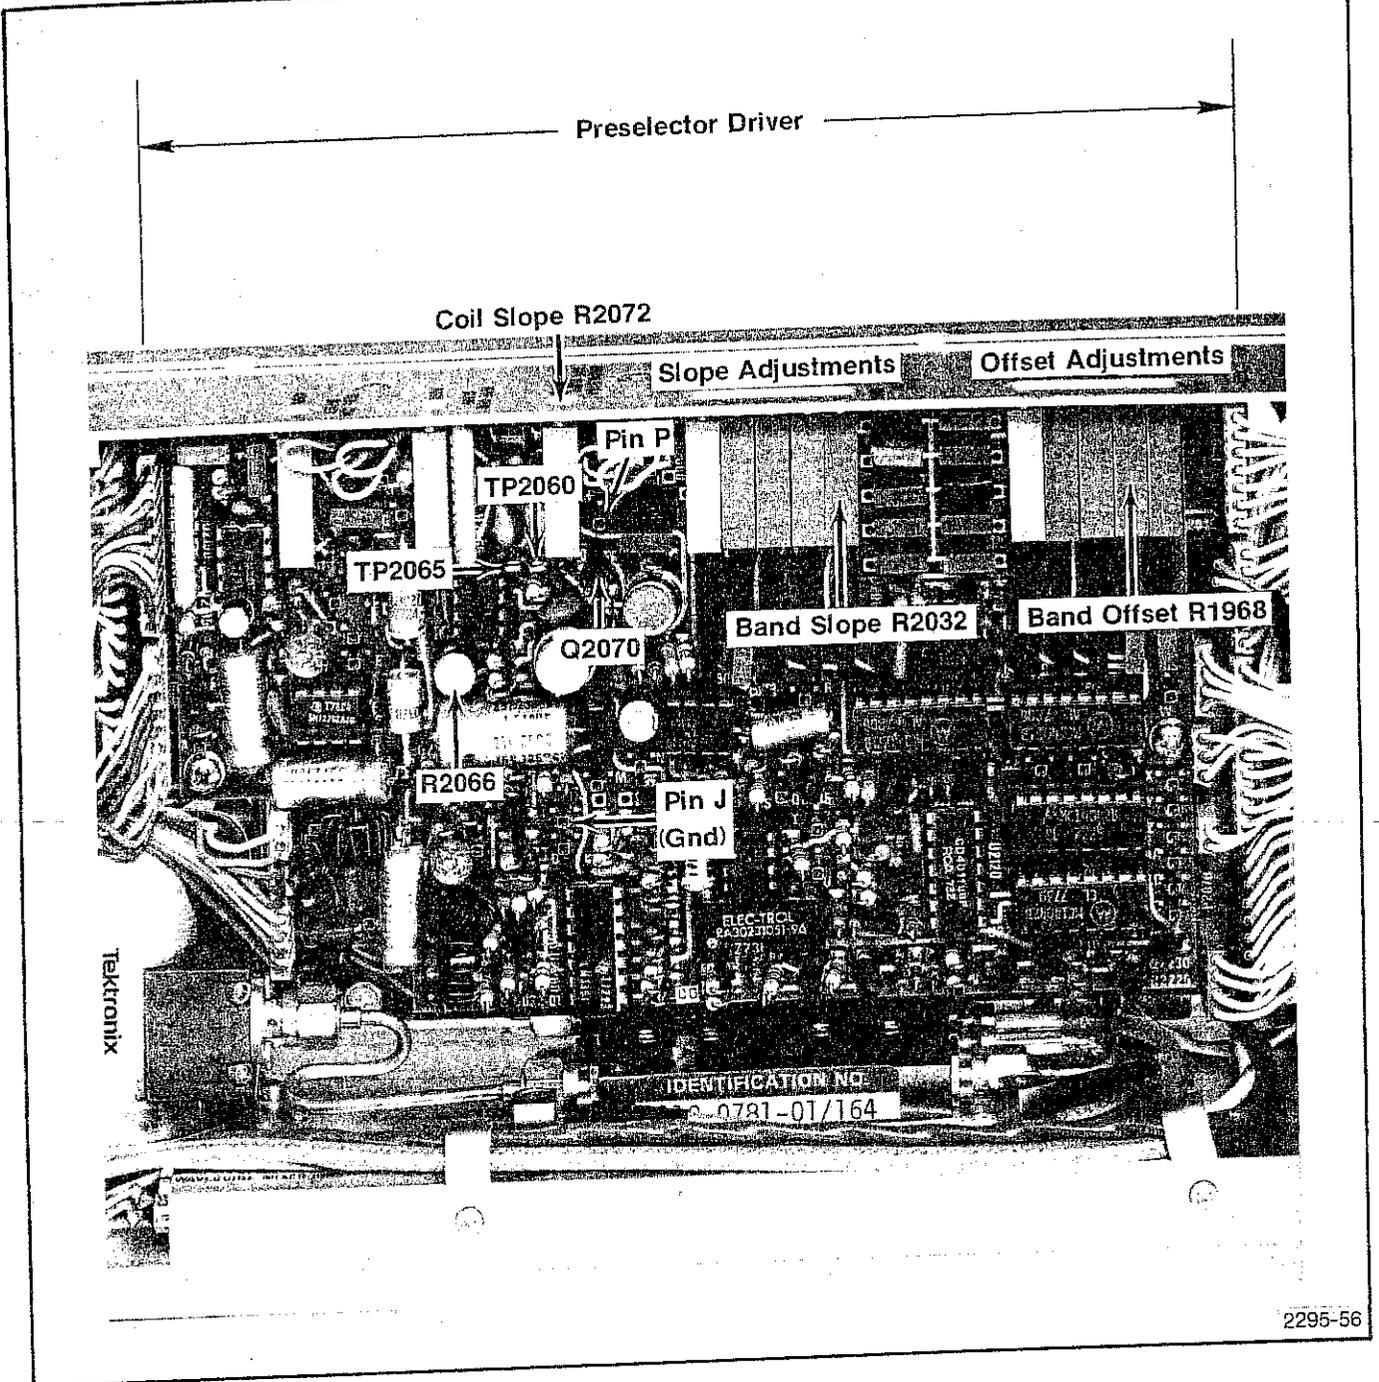
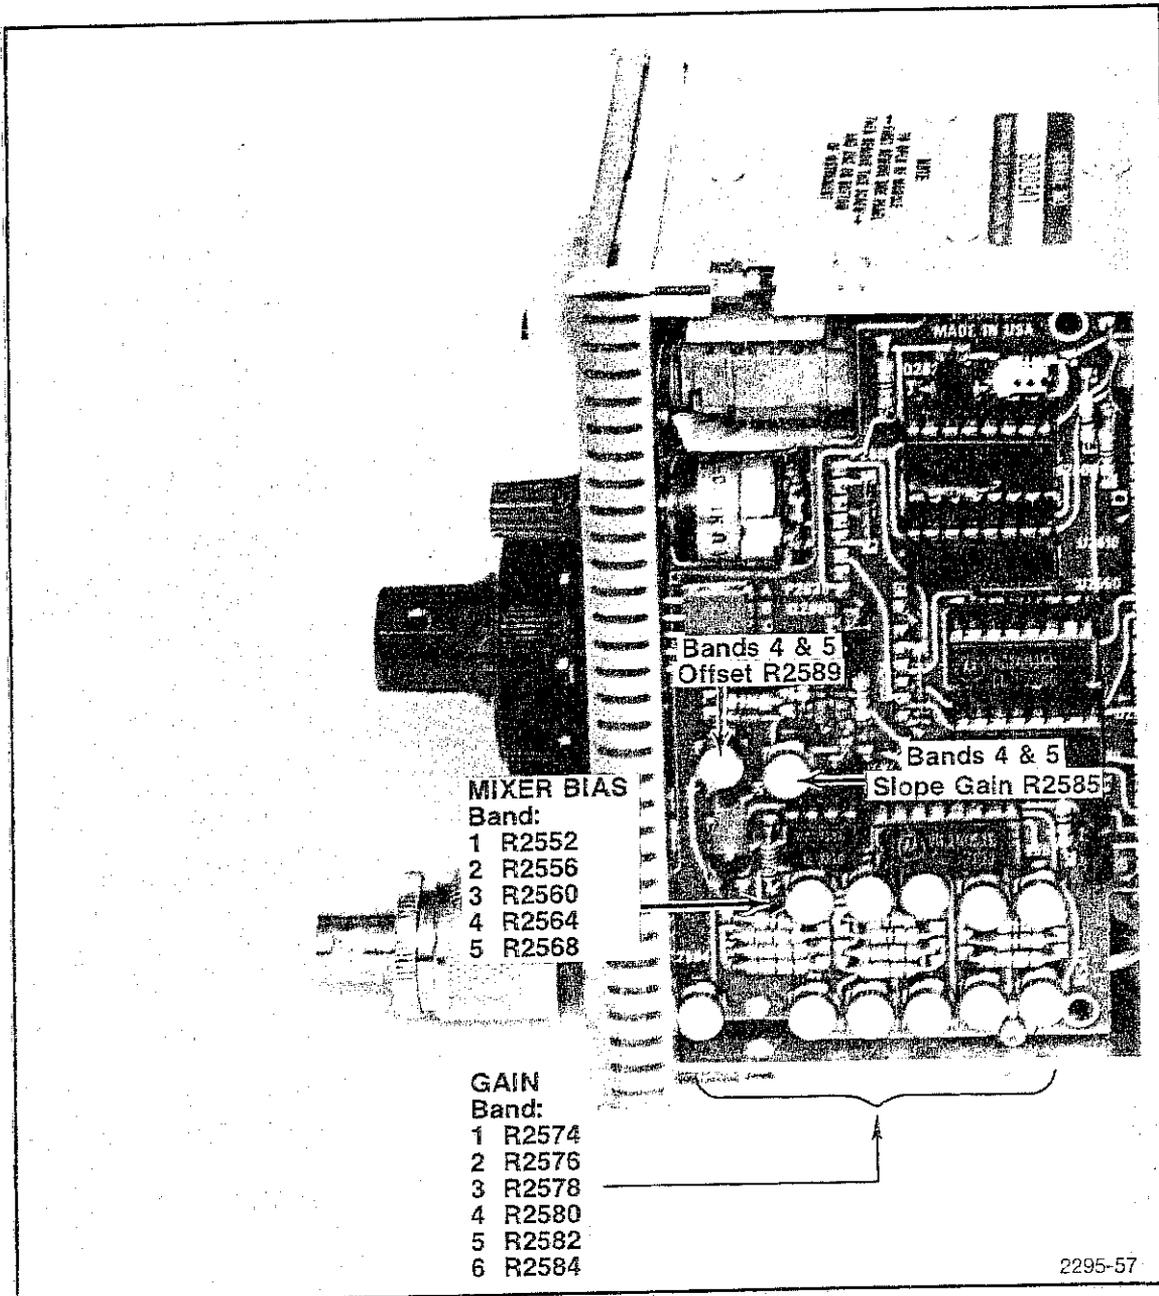

Fig. 4-48. Preselector Driver Adjustment and T.P. Locations.
Fig. 4-49. Vertical Microcomputer Interface Adjustment and T.P. Locations.
a. On the 1st LO and Preselector Driver board, remove Q2070, connect a shorting strap across TP2060 and TP2065, and connect a voltmeter or dc coupled test oscilloscope probe between connector P and ground (see Fig. 4-48).
c. Set the following Preselector Driver and Vertical Microcomputer Interface adjustments to midrange (see Figs. 4-48 and 4-49).
Band 1 through 5 Offset adjustment—R1962, R1970, R1976, R1980 and R1986 (Fig. 4-48). Band 1 through 5 Slope adjustments—R2008, R2014, R2020, R2026, and
R2032 (Fig. 4-48). Band 1 through 6 Gain adjustments—R2574, R2576, R2578, R2580, R2582, and R2584 (Fig. 4-49). Mixer Bias adjustments—R2560 and R2568 (see Fig. 4-49).
d. Set the following adjustments fully counterclockwise (see Fig. 4-49):
f. Adjust Preselector Coil Slope R2072 (see Fig. 4-48) to center the comb of markers on the display.
g. Change BAND selector to 2 (2.5 to 4.5 GHz) and adjust Band Offset R1968 (see Fig. 4-48) to center the comb envelope on the display.
i. Adjust Band 5 Bias R2568 (see Fig. 4-49) for overall flatness of the comb display. Use the RF Attenuator, if needed, to avoid over-driving the preselector.
j. Switch to Band 4 (6.5 to 12.5 GHz) and adjust Band 4 Offset R1980 (Fig. 4-48) and Bias R2564 (Fig. 4-49) for maximum comb amplitude and flatness. Use the same procedure as that described for Band 5.
p. Adjust R2043 (Band 5 Slope) R1986 (Offset), and R2568 (Mixer Bias), for best overall flatness. If flatness rolls off at the high end, adjust the overall Slope Gain with R2585 (Fig. 4-49). R2585 also affects Band 4 flatness. Slope adjustment R2032 (Fig. 4-48) affects the gain slope or the high end of the frequency range. Mixer bias should be adjusted for best sensitivity at the high end and Offset adjustment R1968 should shift the overall response about the center of the span.
s. Adjust Band 4 Slope R2026, Offset R1980 (Fig. 4-48), and Mixer Bias R2564 (Fig. 4-49), for the best overall flatness using the procedure outlined in p of this step. Since R2585 and R2589 affect flatness for both Bands 4 and 5, it may be necessary to set these for the best compromise between the two.